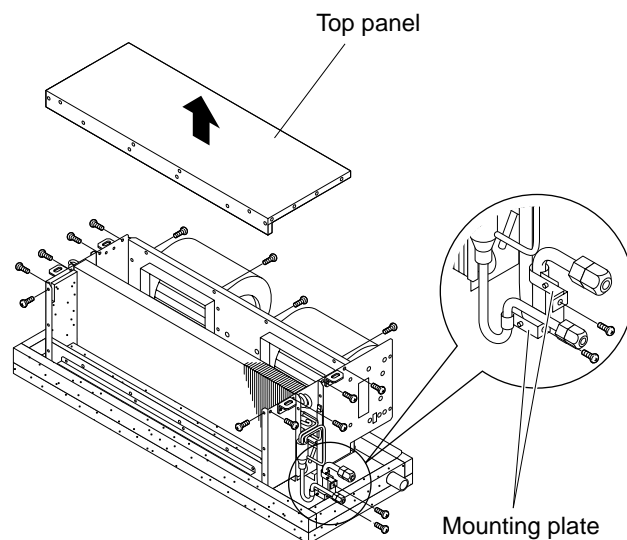

Fig. 2
- (1) Remove 14 screws securing the top panel. (Fig. 2)
- (2) Remove 2 screws holding the evaporator tubing at the mounting plate. (Fig. 2)